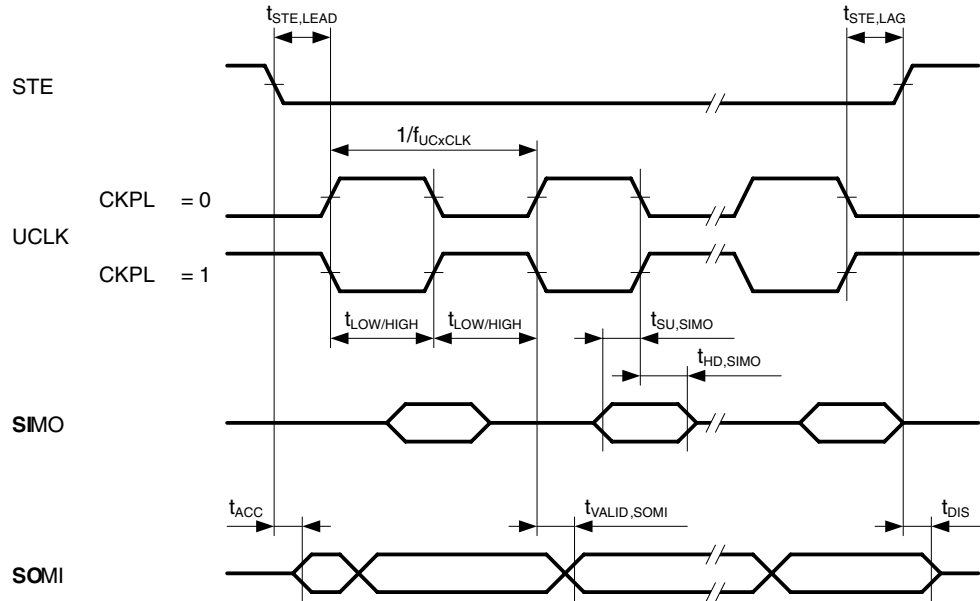
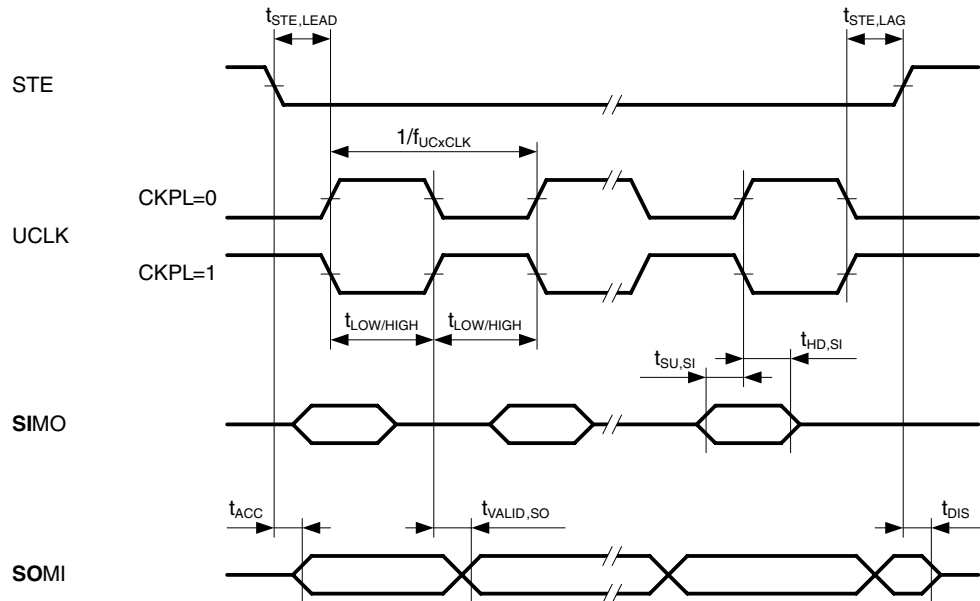

Figure 20. SPI Slave Mode, CKPH = 0
Figure 21. SPI Slave Mode, CKPH = 1
**USCI (SPI Slave Mode, see Figure 20 and Figure 21)**